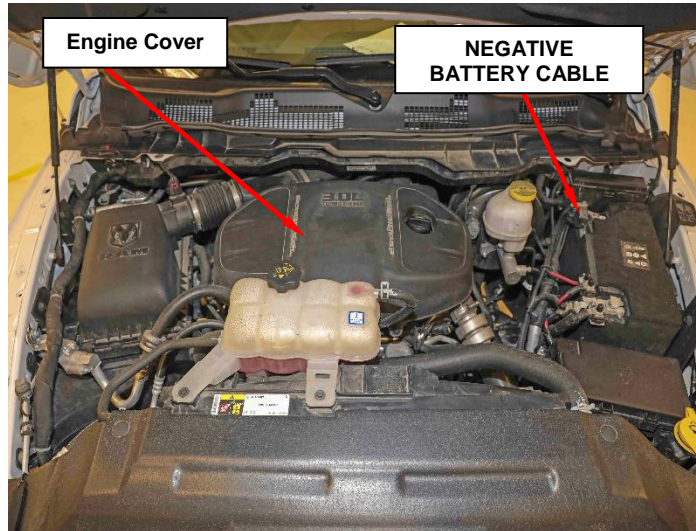

Figure 1 – Engine Cover
1. Disconnect the negative battery cable (Figure 1).